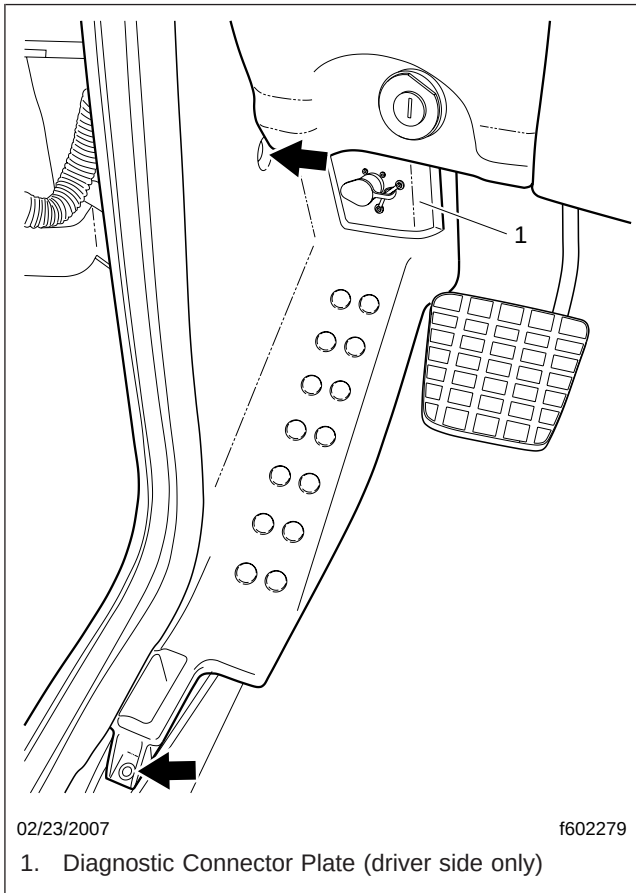

Fig. 3, A-Pillar Lower Trim Panel Fasteners
8. Detach the diagnostic connector plate (driver side only) from the A-pillar lower trim panel by removing the Christmas-tree fastener at the top of the plate and unhooking the bottom tab; see Fig. 3. Push the plate behind the trim panel through the opening.
9. Remove the two screws that attach the A-pillar lower trim panel to the door frame and the cab side wall; see Fig. 3.